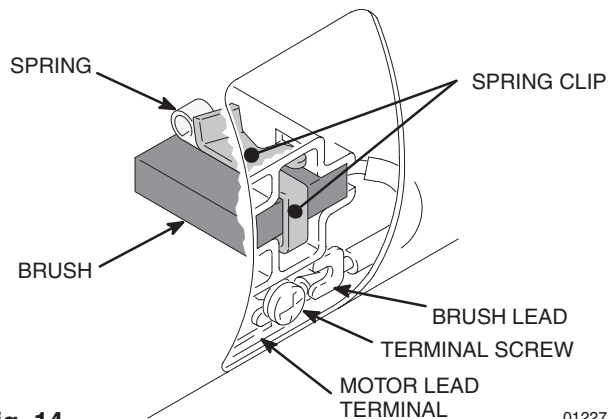

Fig. 14 01227
4. Loosen brush lead terminal screw. Pull brush lead away, leaving motor lead terminal in place. Remove brush and spring. See Fig. 14.
7. Slide terminal under terminal screw washer and tighten screw. Be sure motor lead is still connected at screw. See Fig. 14.